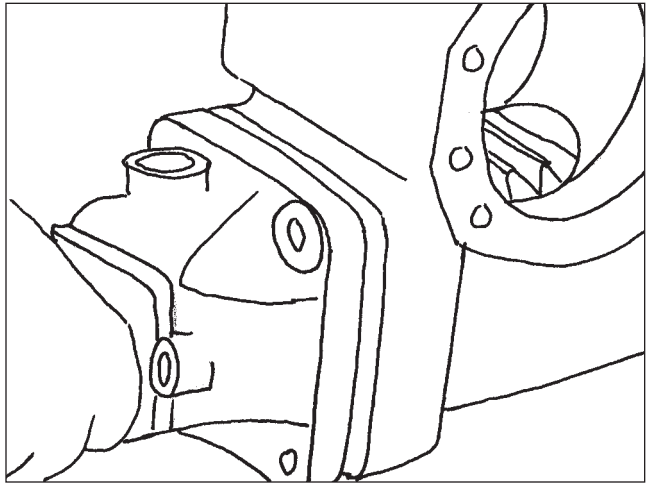

Figure 132
11. To install the piston, carefully work the piston ring past the sector shaft opening in the cylinder bore. While maintaining pressure on the end of the piston, press the piston seal into the ring groove. As the piston ring is compressed into the ring groove, the piston will slide further into the bore until the piston ring has passed the sector shaft opening (Figure 132).